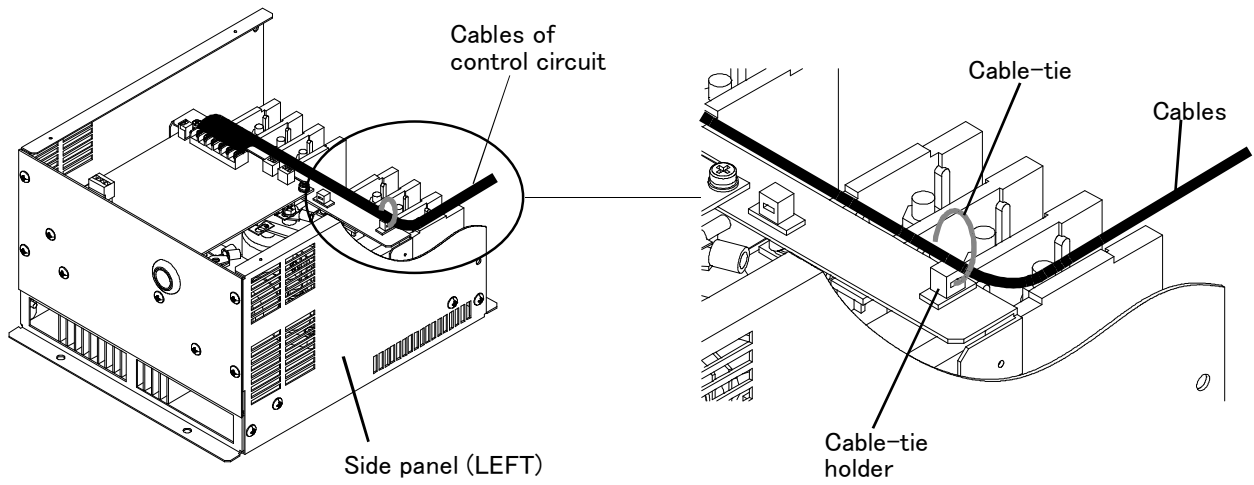

Fig. 2-3-5 Route of control circuit wiring
(5) Wiring of the control circuit
- ① Lead out the cable along the left side panel as shown in Fig. 2-3-5.
- ② Secure the cable to cable-tie holder on the left wall of the main circuit terminal block on the way of lead out using a cable-tie (e. g. insulock). The cable-tie must not exceed 3.5mm or less in width and 1.5 mm or less in thickness to pass through a rectangular hole (3.8×1.5).